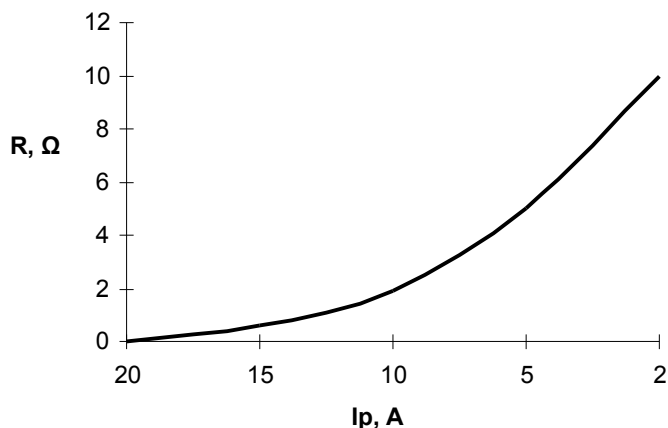

Figure 8 – Output pulse current versus gate resistor nominal
| Maximum output pulse on current | $I_{Omax on}$ | A | +18 | 20 | | ref. to Figure 8 |
Gate resistors (Ron1, Ron2, Roff1 and Roff2) are necessary for maximum pulse current decrease. Resistor installing with every nominal is allowed, including 0 Ω . Resistor installing with different nominal is also allowed; for instance, in order to increase turn-on time of controlled transistor purposely to decrease voltage amplitude of inductive kicks. Output pulse current versus gate resistor nominal is shown at Figure 8.
- set up output pulse current by resistor Rg on(off) in compliance with Figure 8.